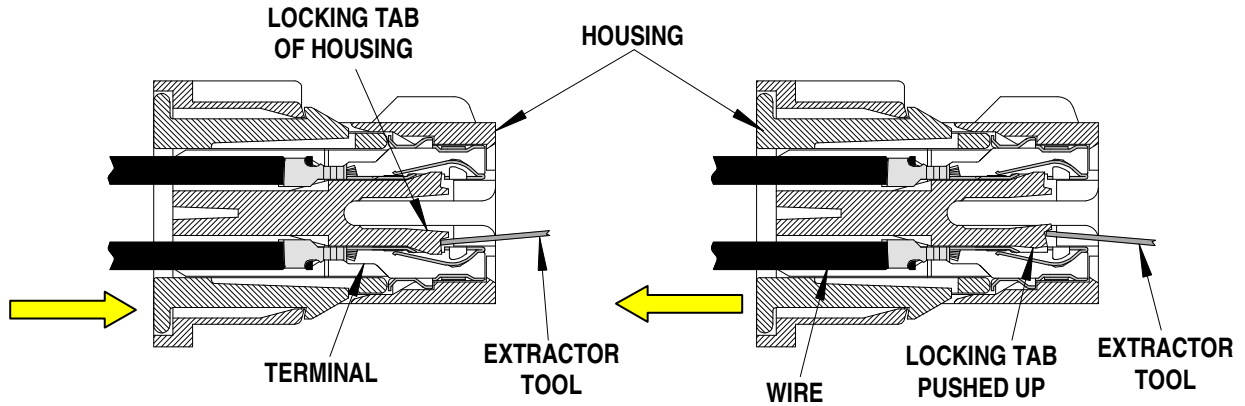

Figure 7
3. While rotating the extraction tool down, bend the terminal locking tang down and push the terminal back through the connector slot. Make sure that the terminated wire is pulled out at the same time. See Figure 7.